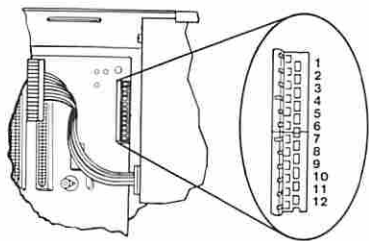

Figure 5. System Board Resistance
- Check for resistance as shown in Figure 5.